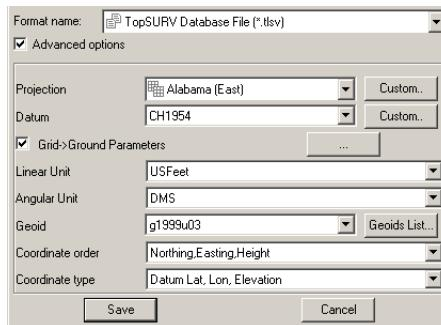

Figure 4-55. Parameters for Created TopSURV File
6. When saving a file as a TopSURV file, you can set the desired projection/datum, linear and angular units, coordinate type and coordinate order, and select or add a geoid file (Figure 4-55 on page 4-43).